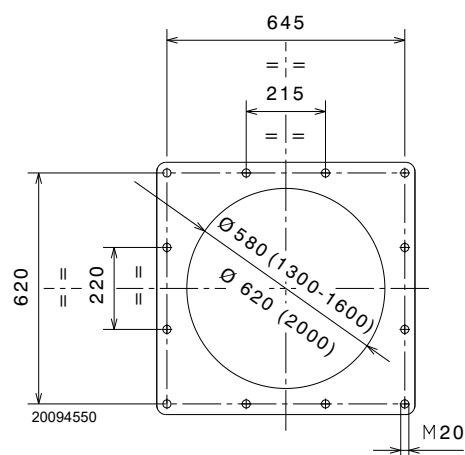

Fig. 13
Pierce the closing plate of the combustion chamber, as in Fig. 13.
- Fit the entire burner onto the boiler hole, prepared previously, as in Fig. 13, and fasten with the screws supplied (tightening torque  $250 \div 300$  Nm).